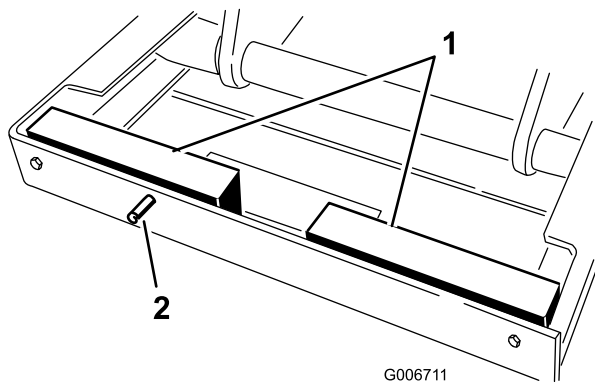

Figure 26
6. Remove retaining pins securing safety blocks to side of lift frame (Figure 26).